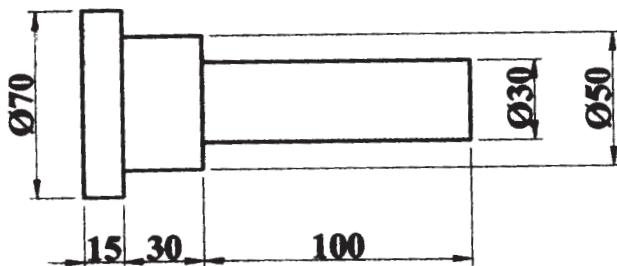

Fig. 5
- Q7)** Explain the rules of upsetting with designing upset die for the component as shown in fig.5. [16]
Q8) Design close die forging for the component shown in fig.5